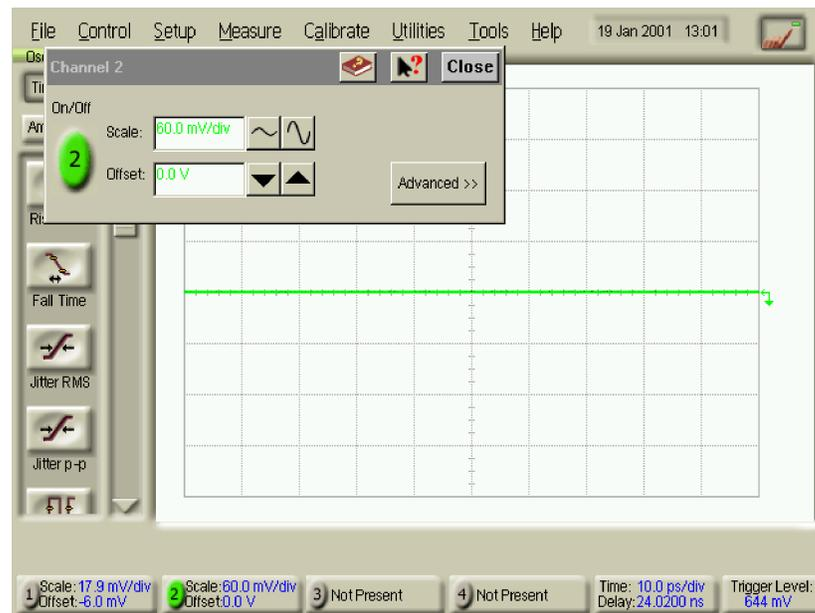

Figure 2-3. Setting Scale and Offset for Measuring Time Interval Accuracy
- 9 On the DCA screen, press Scale Offset for the channel in use, then set the scale (vertical) to 60 mV/div and the offset to 0 V. See Figure 2-3. Close dialog box.